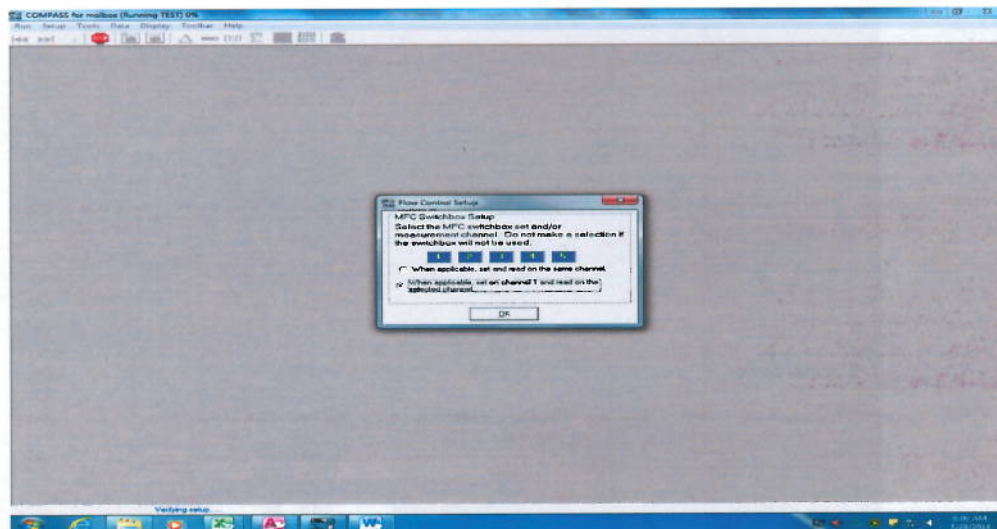

Figure 6
- 12.3.5 The “Flow Control Setup” window is used if you want to use the internal mass flow controllers. This window allows you to select which MFC to use. This procedure does not employ the internal mass flow controllers. Click on the “OK” button. See Figure 6.